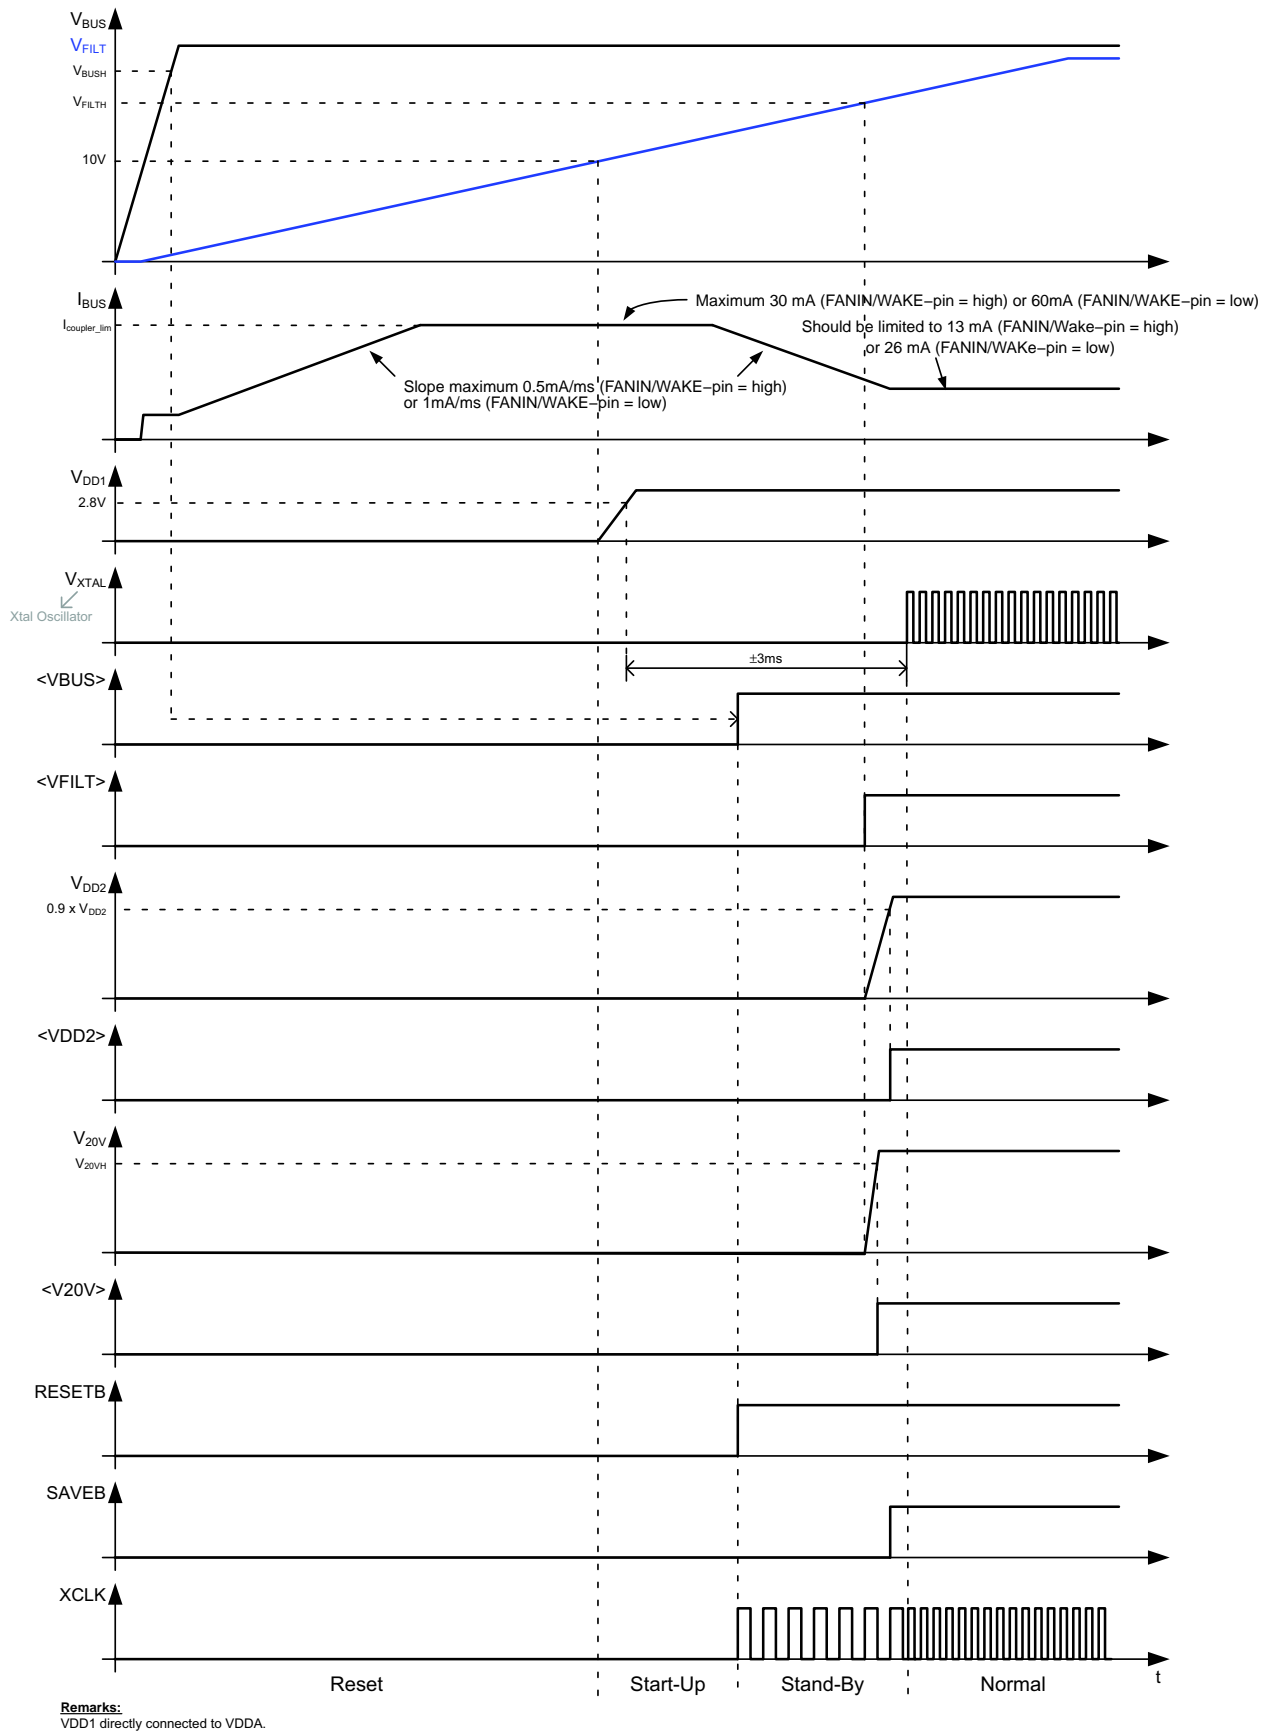

Figure 21. Start-Up Behavior
After power–up, a 4 MHz (Note 3) clock signal will be present on the XCLK–pin during Stand–By. When Normal State is entered, a 8 or 16 MHz clock signal will be present on the XCLK–pin. See also Figure 21.
Figure 21 gives a detailed view on the start-up behavior of NCN5120. After applying the bus voltage, the filter capacitor starts to charge. During this Reset State, the current drawn from the bus is limited to $I_{coupler}$ (for details see the KNX Standards). Once the voltage on the filter capacitor reaches 10 V (typ.), the fixed DC-DC converter (powering VDDA) will be enabled and the device enters the Start-Up State. When V_{DD1} gets above 2.8 V (typ.), the OTP memory is read out to trim some analog parameters (OTP memory is not accessible by the user). When done, the Stand-By State is entered and the RESETB-pin is made high. If at this moment V_{BUS} is above V_{BUSH} , the VBUS-bit will be set (<VBUS>, see System Status Service, p34). After approx. 2 ms the Xtal oscillator will start. When V_{FILT} is above $V_{FILTDC2}$ and V20V will be started. When the Xtal oscillator has started, no Thermal Warning (TW) or Thermal Shutdown (TSD) was detected and the VBUS-, VFILT-, VDD2- and V20V-bits are set, the Normal State will be entered and SAVEB-pin will go high.